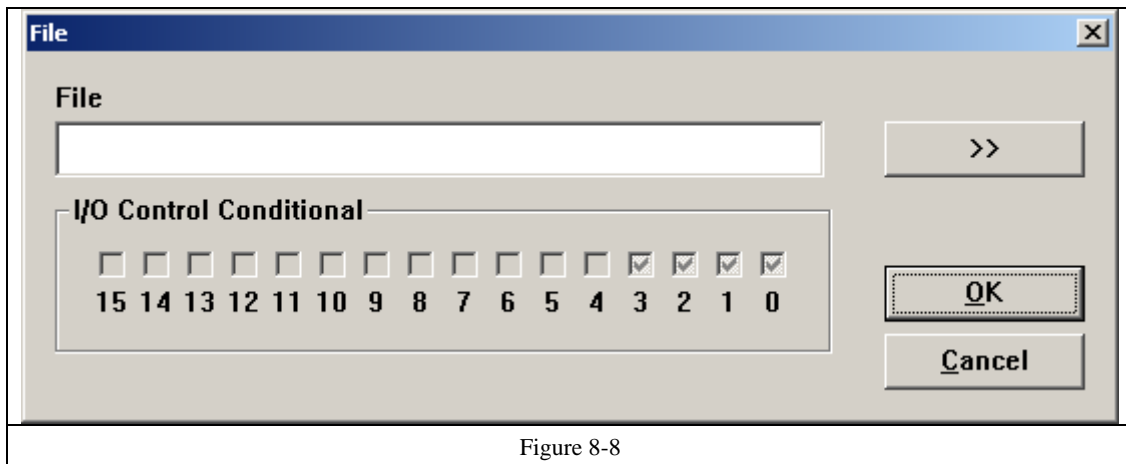

Figure 8-8
Step 2: Click menuitem **Rotary marking2** and the dialog box shown in Figure 8-8 popup.
Add: Add .ezd files. The dialog box pops up as Figure 8-8 after click “add” button. Setting I/O control conditional for files, and automatically mark files when board accept the IO signal in mark status.
If must the accepting signals be pulse signals, should set IO port that doesn't show in figure 8-38 in start mark IO. For example, port 0-3 show in figure 8-8, should set other port in start mark